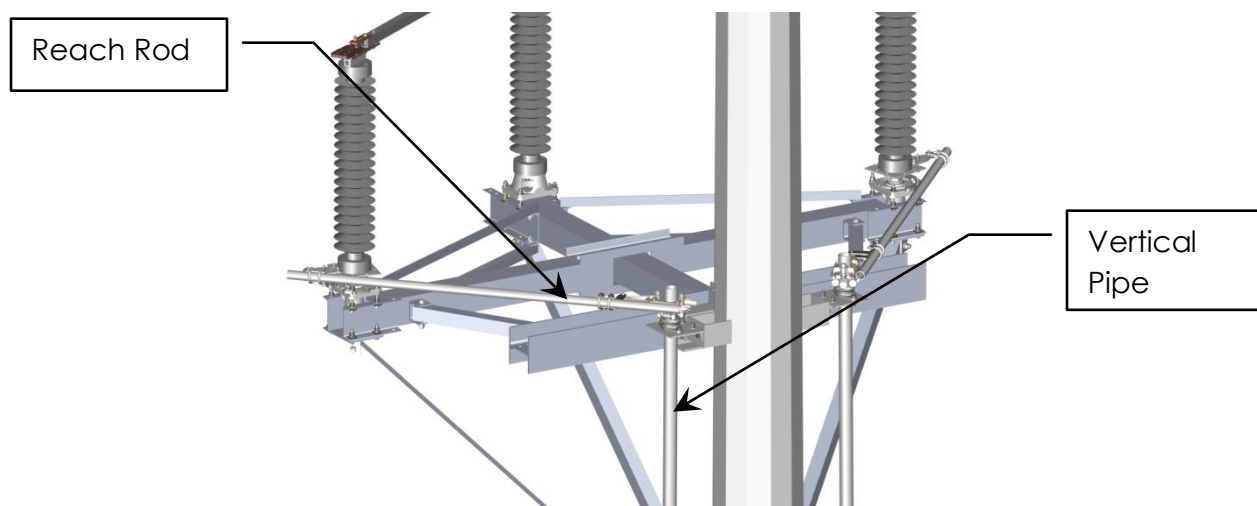
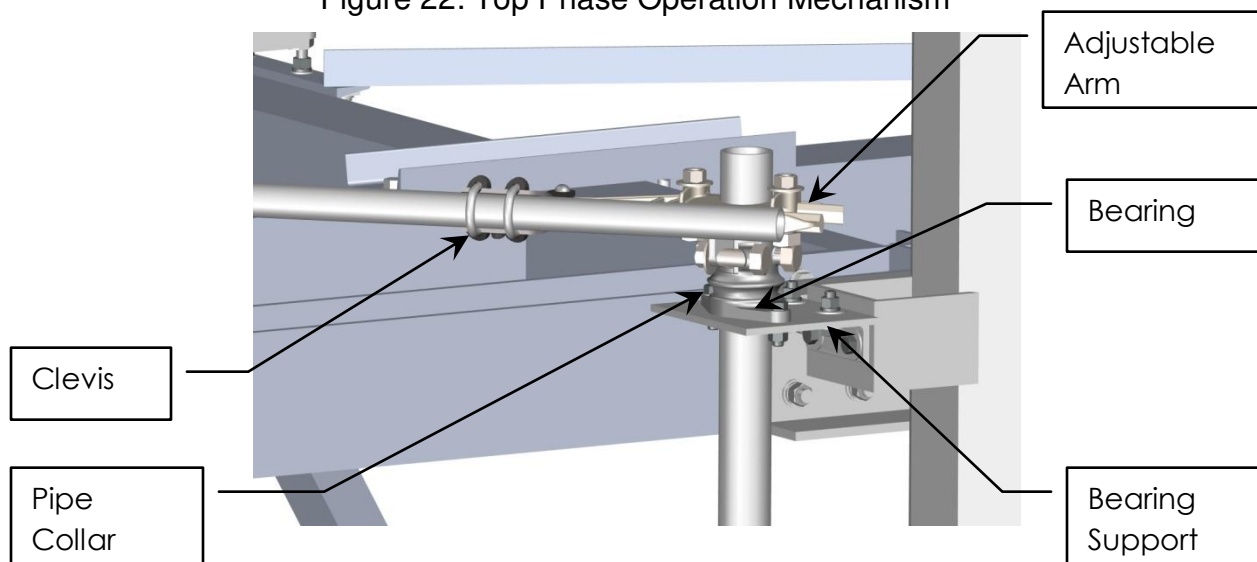

Figure 22: Top Phase Operation Mechanism
Figure 23: Vertical Bearing Support
6. Hang the first section of the vertical operating pipe from the top bearing by piercing the pipe with the bearing collar set screw. **CAUTION:** The pipe collar (above the vertical bearing support) must support the entire weight of the vertical operating pipe. **Do not allow the pipe to rest on the operator.** Refer to Figure 22 and Figure 23.